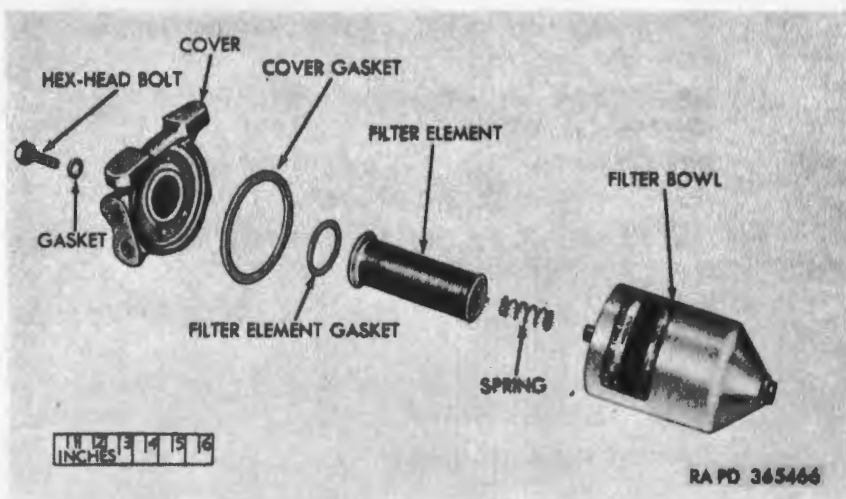

Figure 127. Engine fuel filter—exploded view.
- (3) *Disassembly.* Remove hex-head bolt and gasket (fig. 127) from cover and remove filter bowl with filter element cover gasket. Remove filter element gasket from cover and discard. Pull out filter element and spring from bowl.
- (4) *Cleaning and Inspection.* Filter element (fig. 127) may be removed from filter for cleaning or replacement without removing fuel filter from engine by using procedure outlined in a (3) above. Wash filter element in dry-cleaning solvent or mineral spirits paint thinner.
- (5) *Assembly.* Coat new filter cover gasket and filter element gasket (fig. 127) with liquid gasket cement and install in cover. Carefully insert spring and element into filter bowl making sure not to damage disks. Position filter bowl with element to filter cover and secure with gasket and hex-head bolt.